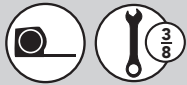

FIGURE 1
Loosen the (4) lock nuts (3/8" wrench) inside the front wall of the unit (see Fig.1).